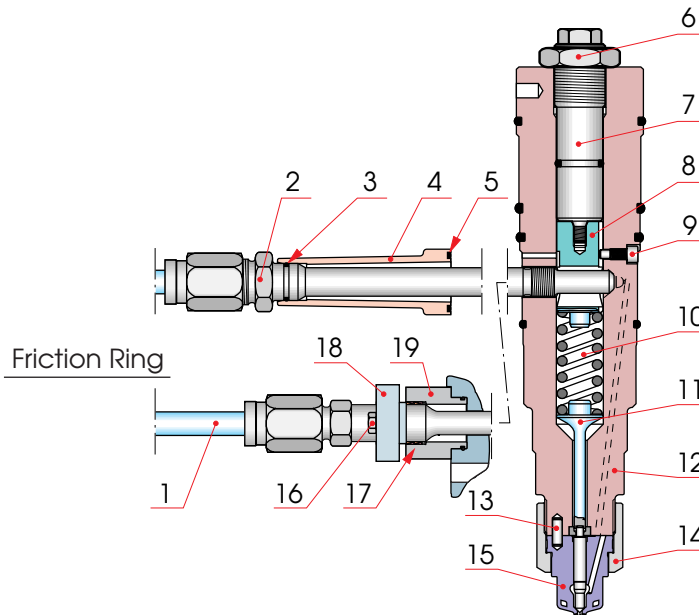
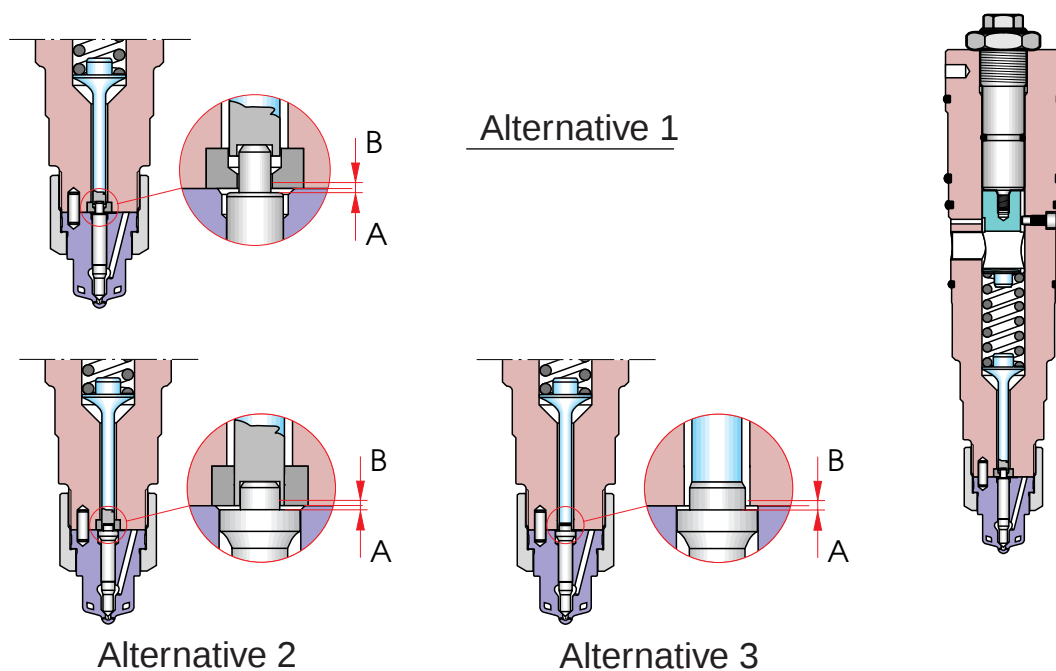

Fig 16-2
Fig 16-3
The injection valve is centrally located in the cylinder head and includes the nozzle holder and the nozzle (15), see Fig 16-2. The fuel enters the nozzle holder sideways through a connection piece (2) mounted into the nozzle holder.
- 2** Remove the injection pipe (1), see Fig 16-2.
- 3 Unscrew the connection piece (2)** and loosen the protecting sleeve (4) if necessary. Friction ring design, see text below.
- 4 Loosen the screw (16)** and unscrew the connection piece (2). The conical ring elements (17) come loose together with connection piece.
- 3 Release the nozzle spring tension** by opening the counter nut (6) and releasing the adjusting screw (7).
- 4 Remove the nozzle from the holder** by turning the cap nut (14) using tool 800037 until it is loosened. Keep the nozzle together with the holder body, don't let it follow up with the nut. If there is coke between the nozzle and the nut, the dowel pins may break and damage the nozzle. To avoid this, knock on the nozzle, using a piece of pipe according to Fig 16-3, to keep it towards the holder. **Never knock directly on the nozzle tip.** Be careful not to drop the nozzle.
9 Check maximum lift of nozzle, i.e. sum of measures A and B in Fig 16-3. If the wear B exceeds 0.10 mm, the nozzle holder can be sent to the engine manufacturer for reconditioning. If the total lift is out of the value stated in chapter 06, section 06.2, the nozzle should be replaced by a new one.
- 6** Mount the **connection piece** into the cylinder head. Screw in the connection piece by hand. Tighten to correct torque. (Friction ring design only, see Fig 16-2.)
- 7** Tighten the **fastening screws (16)** of the flange (18) to correct torque, see section 07.1. (Friction ring design only.)